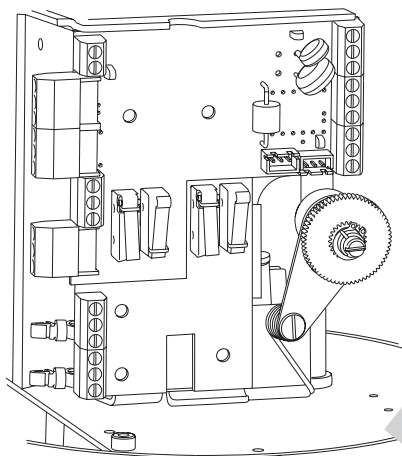

Fig. 21
- Mount the auxiliary switch card (Figure 21).